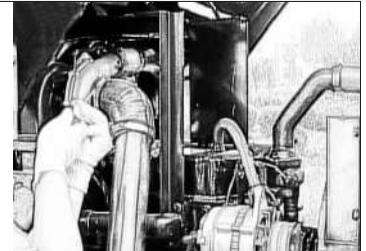

Fig 5-32 Connecting of Intake and Exhaust Pipes
3.2.4 Keep the connecting tube of inlet intake and exhaust pipe well without broken. Tighten up with clip see Fig 5-32).